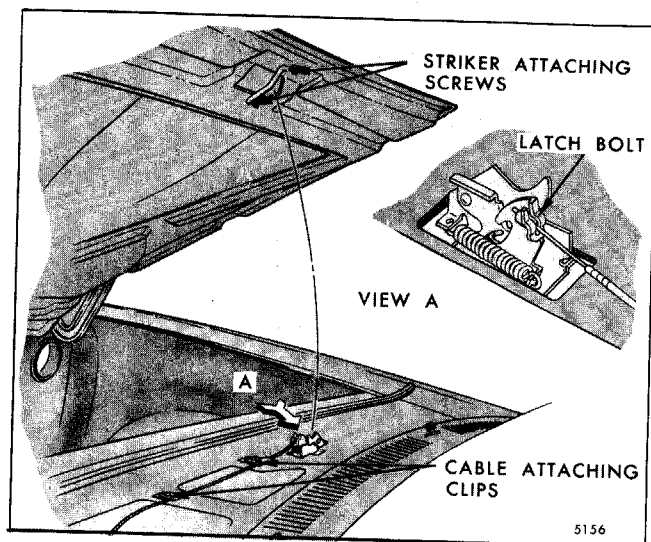
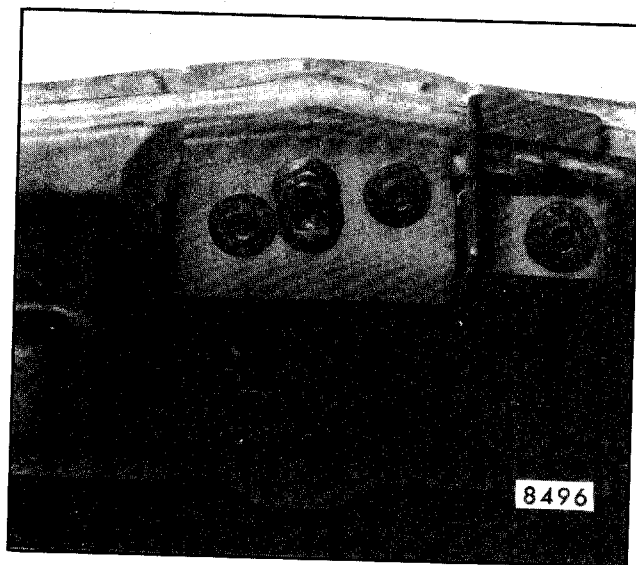

Fig. 4-25-Hood Latch and Hood Latch Striker - H-15 and 77 Styles
Fig. 4-26-Hood Latch Striker - H-07,27 Styles
1. Raise hood and remove striker attaching screws. Remove striker (Fig. 4-25 for H-15 and 77 styles and Fig. 4-26 for H-07, 27 styles).
2. With hood open, remove clips securing hood latch release cable to shroud upper panel (Fig. 4-25).
- cable through plenum and up over top of shroud panel (Figs. 4-25 and 4-29).